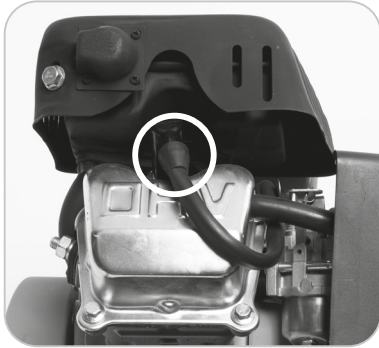

Fig. 15
- Using a spark plug socket (supplied) remove the spark plug. (**Fig. 15**)